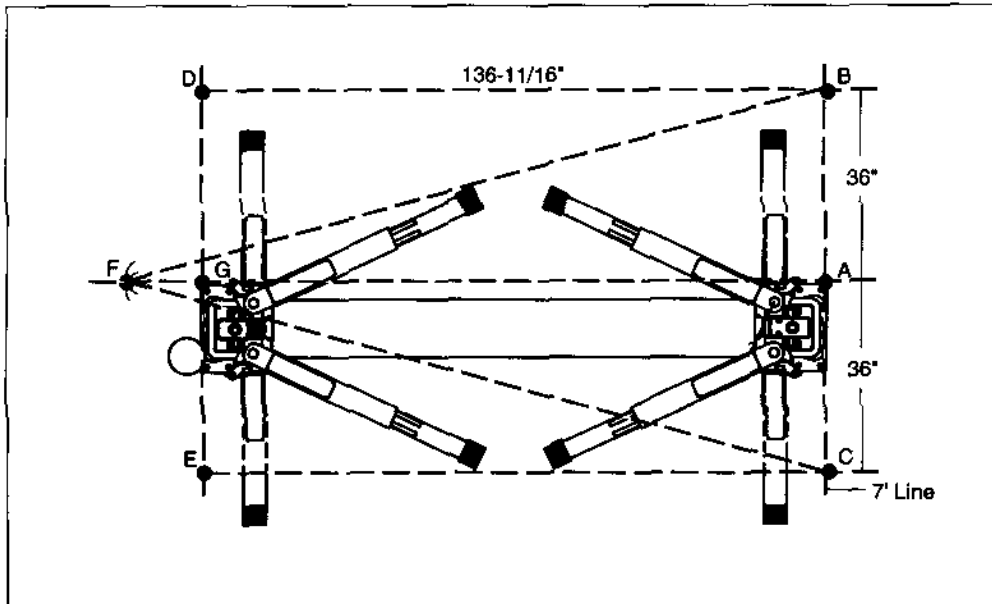

Figure 6 - Locating the Lift (without Garage Door)
2. Mark a straight 7 foot line along the outside edge of the passenger side post base mounting plate. Refer to Figure 6.